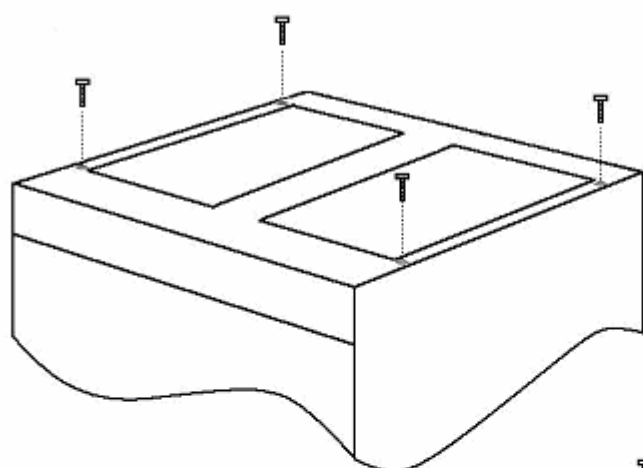

Fig. 6
2. Replace the two screws with the addition of the fiddle rail.(fig 6)